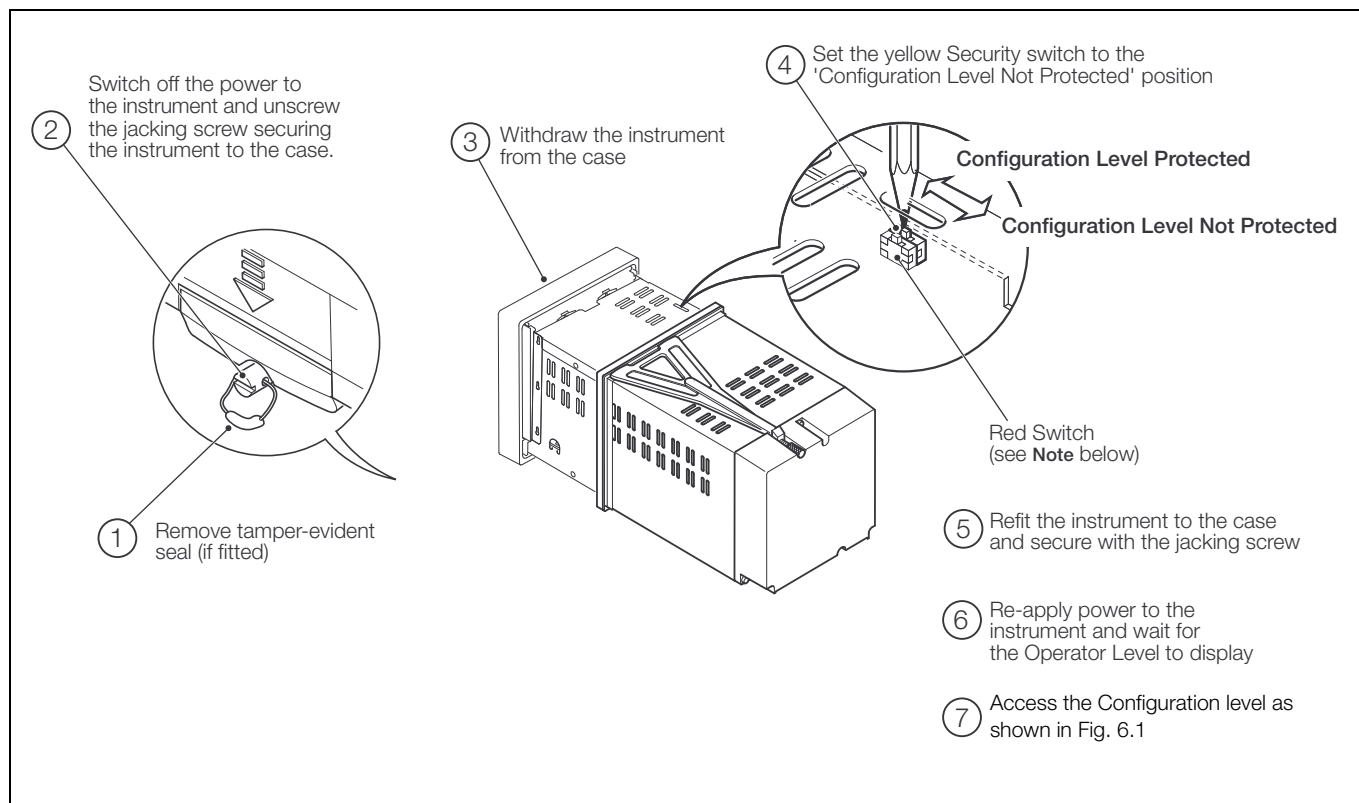

Fig. 6.2 Setting the Security Switch
The Configuration level cannot be accessed until the instrument is withdrawn from its case and the internal switch set to the 'Configuration Level Not Protected' position – see Fig. 6.2, page 50.
Internal Security Switch Setting (see Fig. 6.2, page 50)	'Configuration security' Parameter Setting (see Section 6.4.4, page 59)
- Set the internal security switch to the 'Configuration Level Not Protected' position – see Fig. 6.2, page 50.